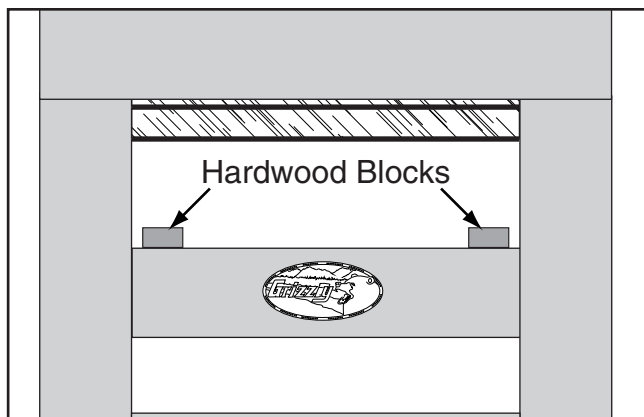

Figure 15. Board position on table.
4. Place the boards on each side of the table as shown in **Figure 15**, so each board spans from the front of the table to the back.